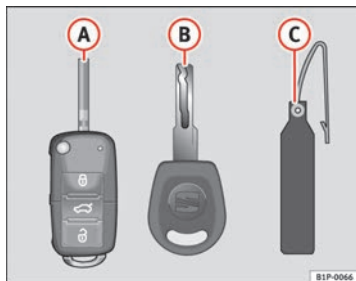

Fig. 61 Set of keys
- one remote control key ⇒ fig. 61 A with folding key bit,